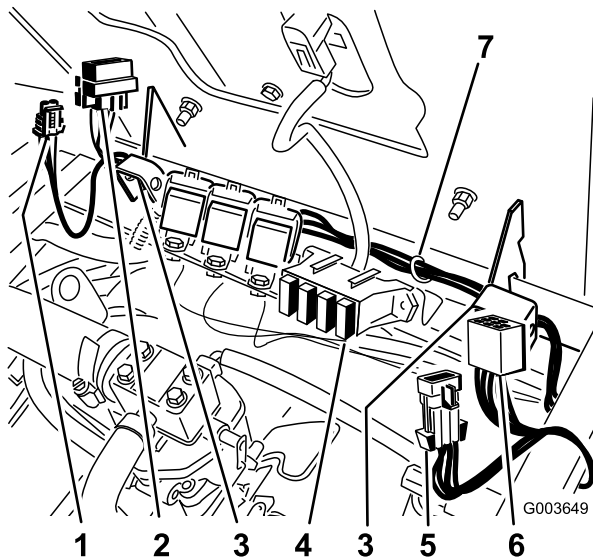

Figure 32
3. Route the harness along the seat hinge from the switch and to the relay previously installed to the valve (Figure 32).
- Install the fuse into right slot in the fuse block (Figure 32).